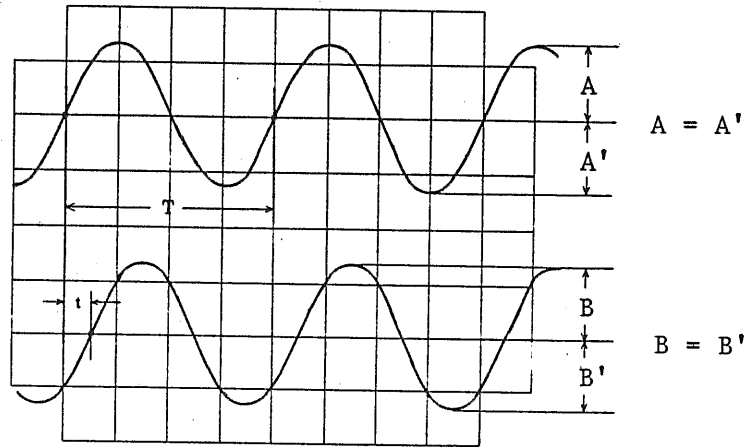

Figure 19
Set the MODE switch in the DUAL state (10), and connect to CH1 the signal to be used for reference and to CH2 the signal to be measured. So adjust the oscilloscope that it displays signals as shown in Fig. 19.